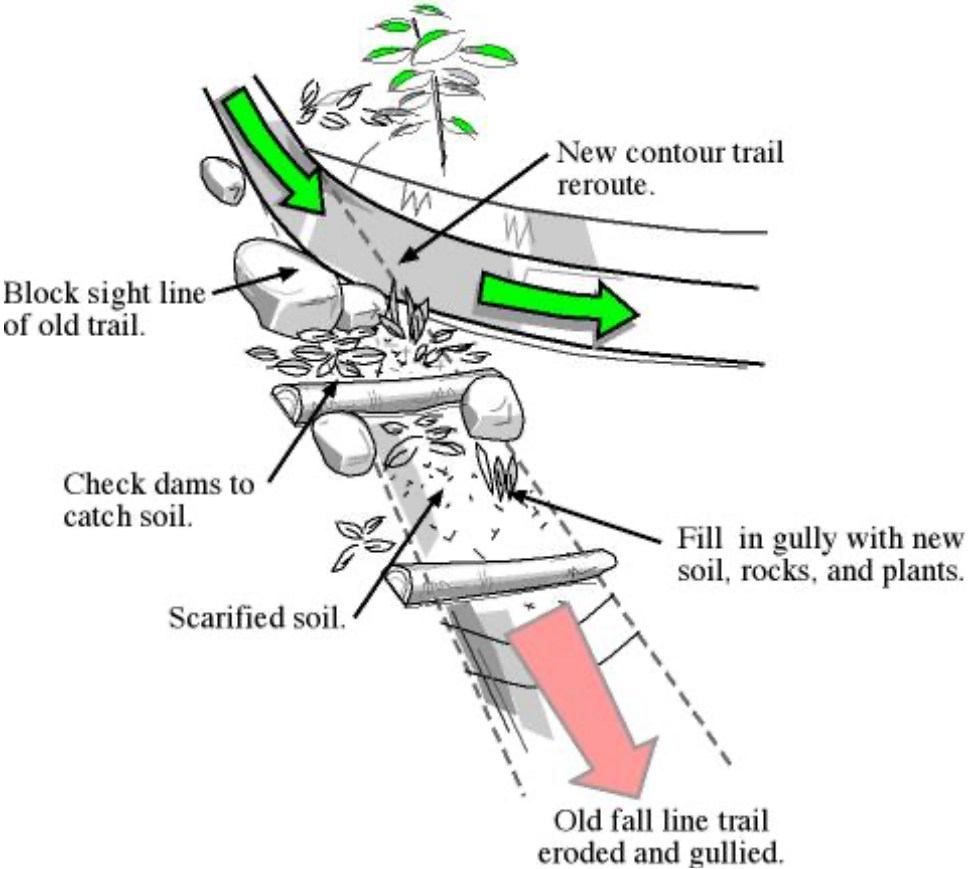

Figure 15: Trail Closure
7.15 Trail Closure (Figure 15)